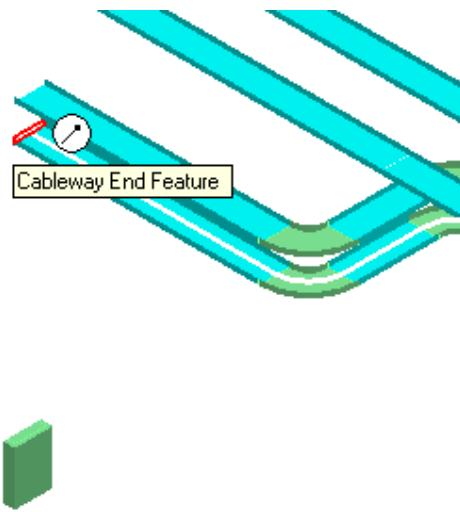

Figure 10: Cableway End Feature Of the Bottom Tray
7. The system prompts for position on the cableway for an exit point. Select the **Cableway End Feature** at the other end of the bottom tray to specify the exit point, as shown in Figure 10.